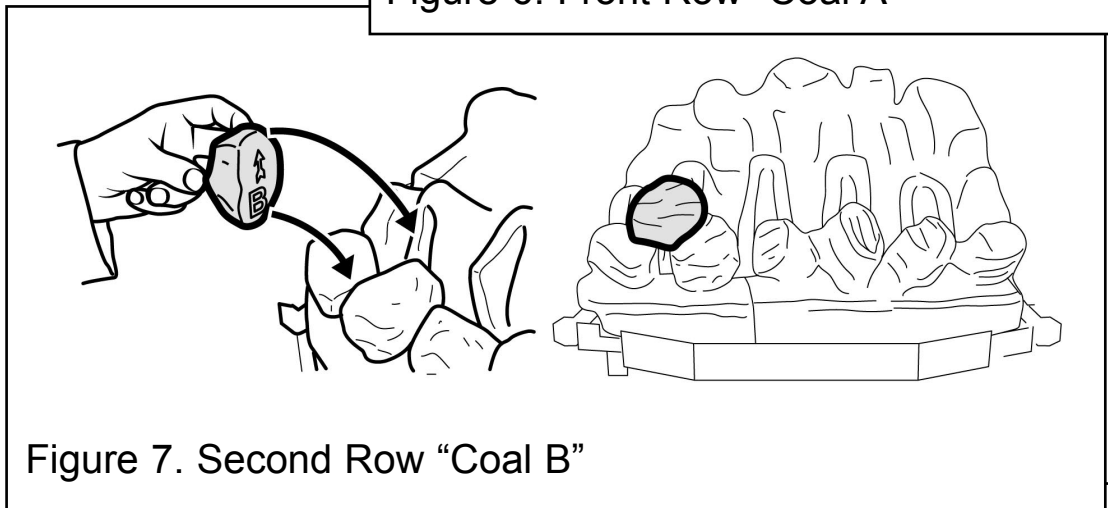

Figure 7. Second Row "Coal B"
8. Hold coal 'B' upright with the arrow pointing to the top. Locate coal 'B' as shown in figure 7.